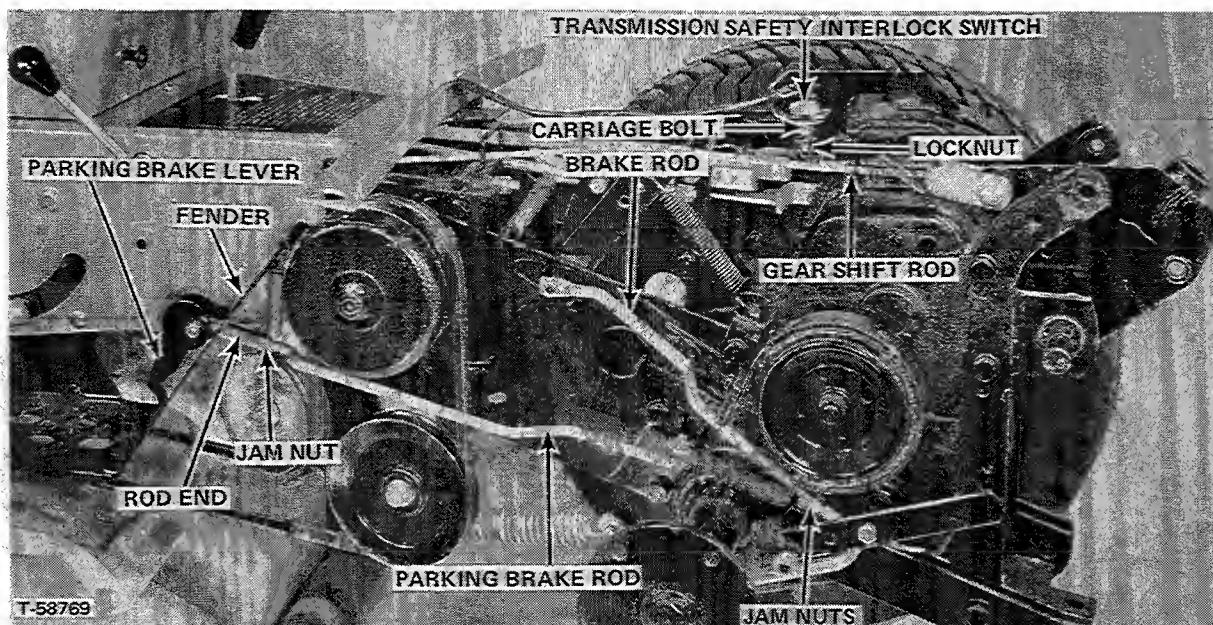

FIGURE 39
- Loosen jam nut on parking brake rod and turn lever and rod end so that brake is tight when parking brake lever is pulled fully upward against the fender opposite the position shown in Figure 39. Tighten jam nut against rod end.
6. The transmission safety interlock switch is actuated by a special flat top carriage bolt screwed into the gear shift rod and held by a jam nut. (See Figure 39) The carriage bolt should be adjusted in or out of the rod to the correct height to actuate the switch when the shift rod is in neutral but not high enough to drag tightly against the switch. The bolt must not touch the switch when shift is in any of the 4 gears.